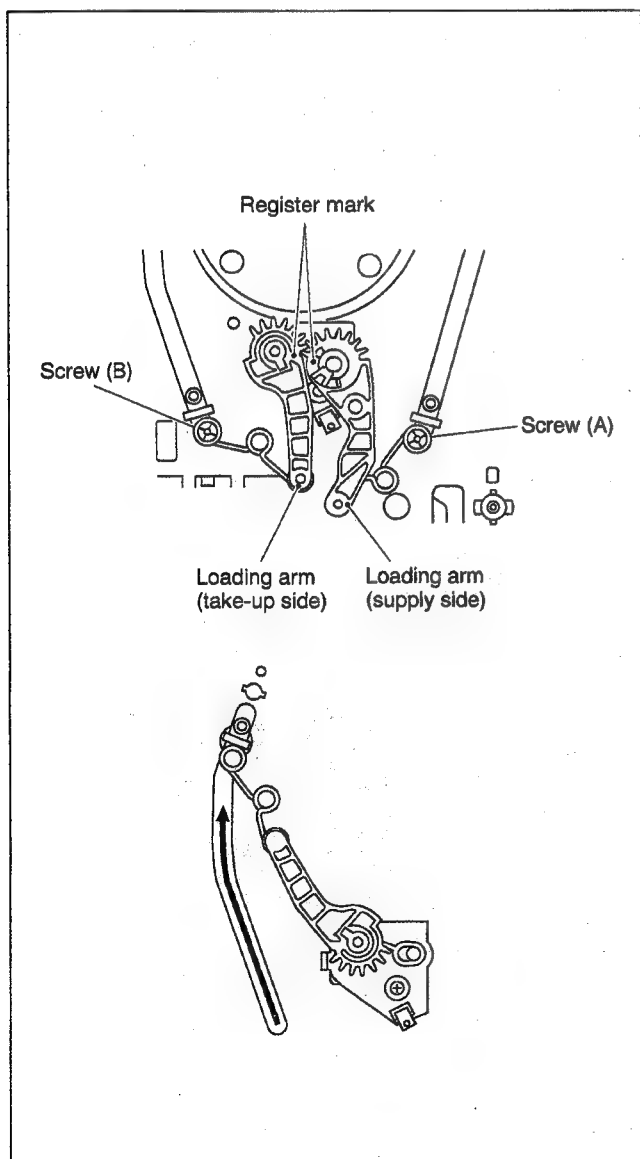
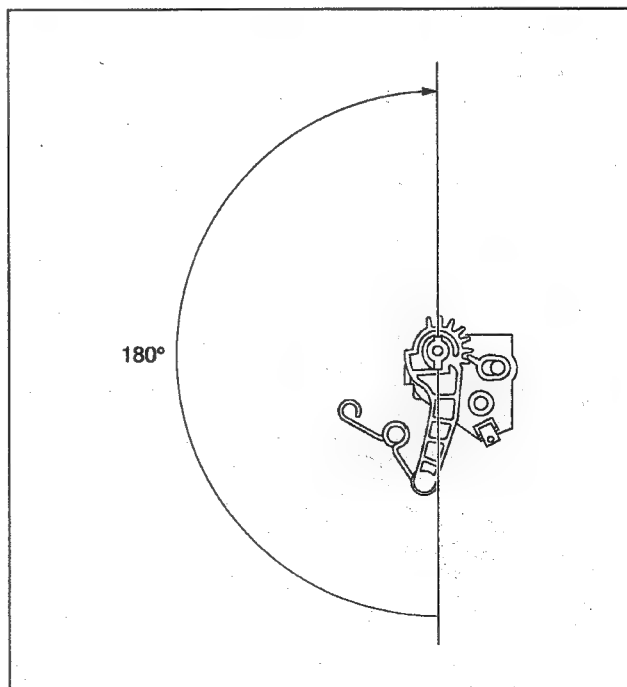

Fig. 2-2-26
Fig. 2-2-28
- (1) Remove the loading arm (on the supply side) by loosening screw (A) in Fig.2-2-26.
- (2) Remove screw (B) in Fig.2-2-26 and slide the pole base in the loading direction with the spring held on the pole base (on the take-up side). (See Fig.2-2-26)
- (3) Pull the spring out of the pole base. Turn the loading arm clockwise through about 45 degrees so that the notch of the loading arm is in alignment with the projection of the loading arm gear shaft and lift it.
- (1) Install the loading arm (on the take-up side) as indicated in Fig.2-2-28 and turn it clockwise through 180 degrees so that the loading arm reaches the bottom of the loading arm gear shaft.
- (2) Then turn the loading arm (on the take-up side) counterclockwise through 180 degrees. Hang the spring on the pole base and tighten the screw.
- (3) Install the loading arm (on the supply side) so that the register mark of the loading arm (on the take-up side) is in alignment with the register mark of the loading arm (on the supply side). Then hang the spring on the pole base and tighten the screw. (See Fig.2-2-26).